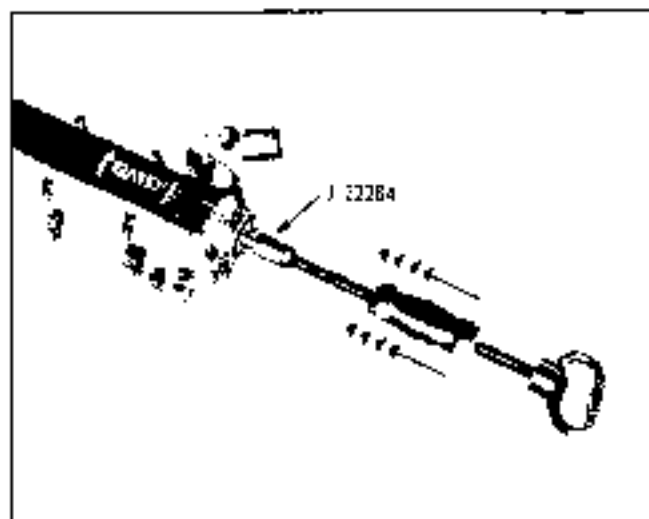

Fig. 6-15. Removing Camshaft From Cover
3. Using J 22234 adapter and slide hammer J 2619 carefully drive camshaft rearward from rocker arm cover (Fig. 6-15).